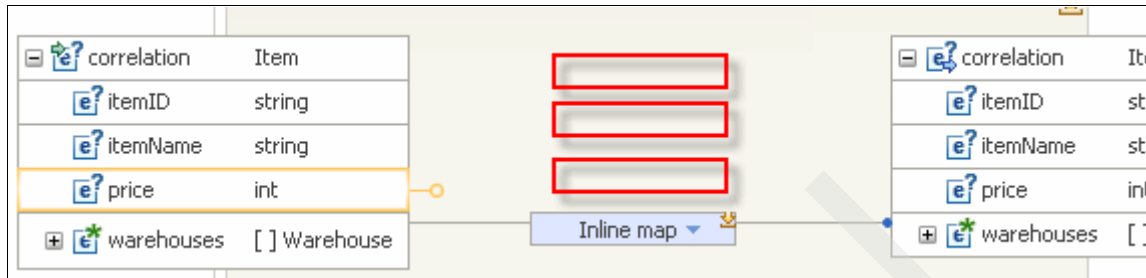

Figure 6-63 Deleting automatic mappings from the correlation context inline map
2. In the XML mapping editor (Figure 6-63 on page 404):